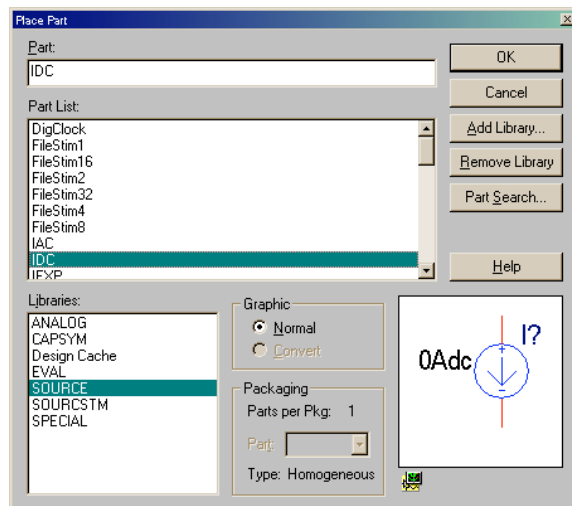

Figure 19
At this stage we will add a Current Source. This will be a direct current (DC) source and will be labeled as IDC by PSpice. So, proceed to the **Place > Part** menu to bring up the Place Part dialog. Highlight the SOURCE Library and then IDC as in Figure 19.